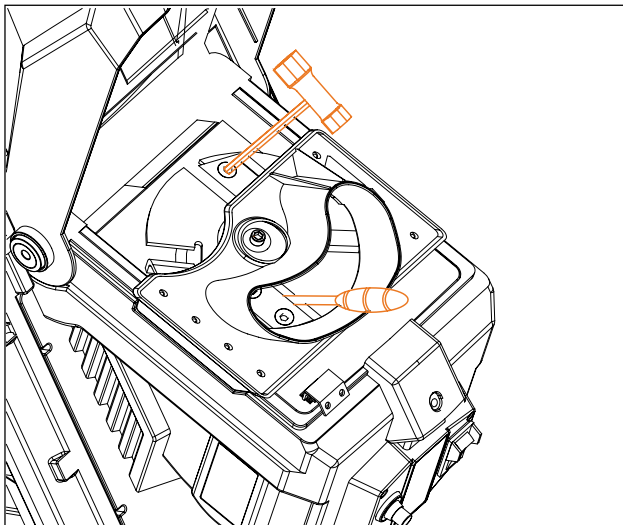

FIG. 10
- 4** Wearing protective gloves, use a screwdriver (not supplied) to hold the blade plate, then use the hexagon socket head screw (**FIG. 10**).